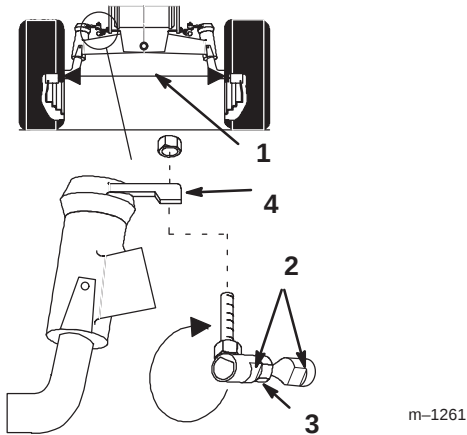

Figure 33
Maintain toe-in of the front wheels as specified. If uneven tire wear, lawn scuffing or hard steering develop adjustment may be required. Check the toe-in every year before storage (Fig. 33).
4. Measure, between the rims, at the spindle level, in the front and rear of the wheels (Fig. 33).
2. Remove ball joint from one steering lever (Fig. 33).
4. Hold flats on ball joint to align with flats on tie rod and tighten jam nut (Fig. 33).